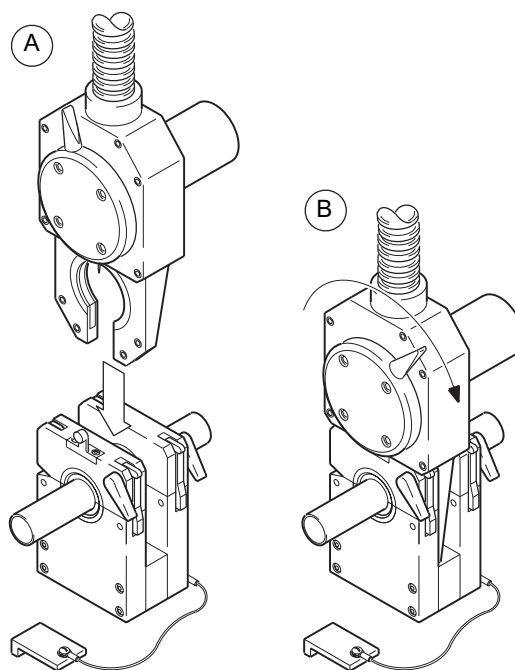

Figure 25 Mating the Weld Head to the Fixture Block
2. Insert the weld head into the fixture block. See Figure 25(A).
3. Rotate the locking lever clockwise to secure the weld head. See Figure 25(B).